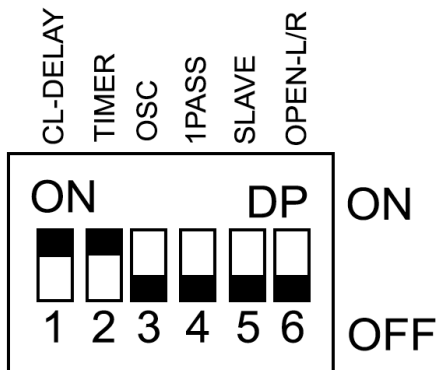

Figure 22
1. On your gate operator circuit board in the bottom, turn Dip Switch #1 to the ON position. Figure 22
1. On your gate operator circuit board in the bottom, turn Dip Switch #2 to the ON position. Figure 22